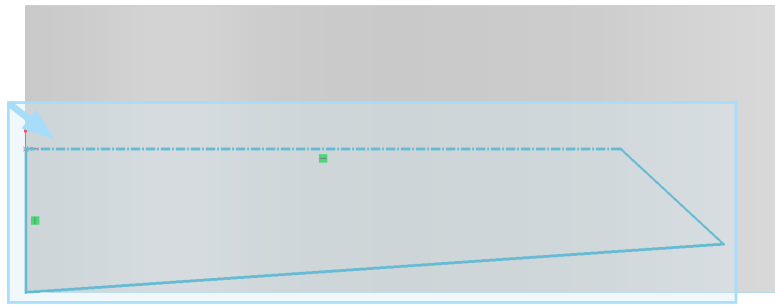

Fig. 11
Step 8. Drag a selection to **select all geometry**, Fig. 11.